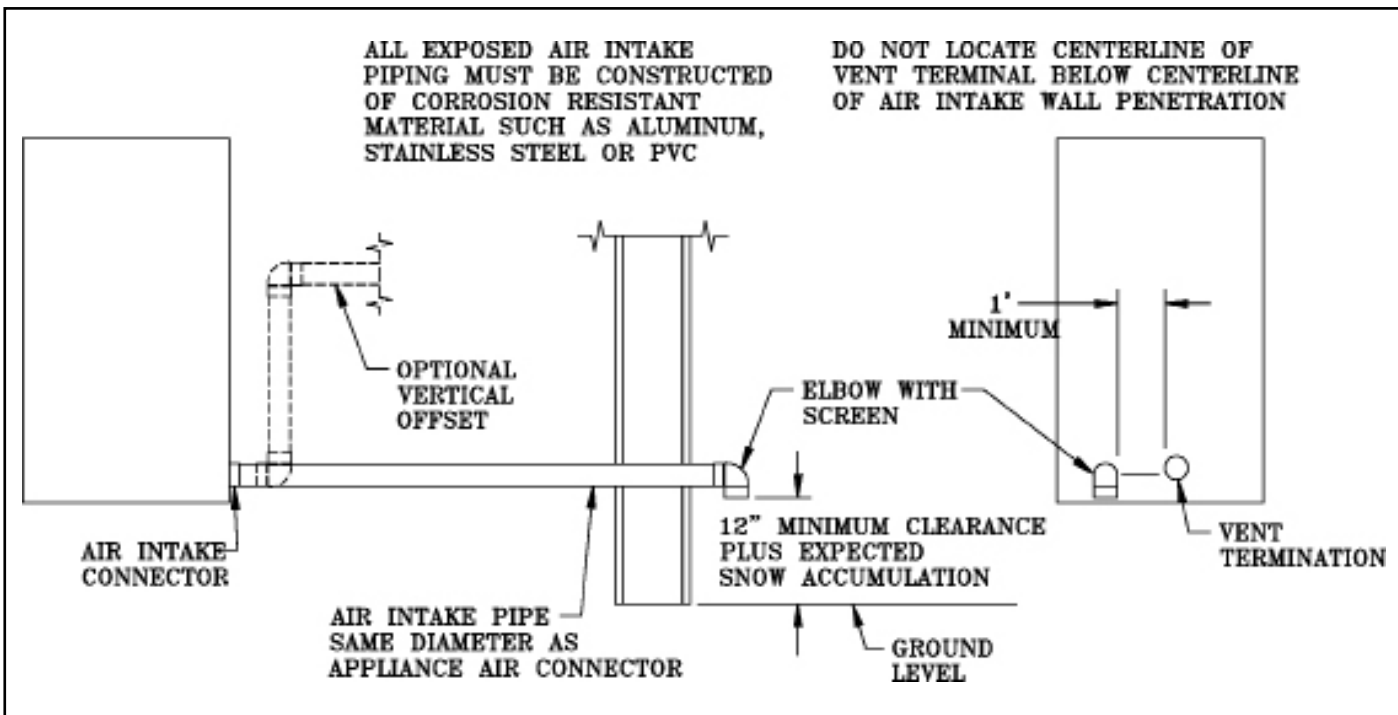

Figure 6: Horizontal Air Intake Piping
B. COMBUSTION AIR - See Figures 6 and 7.
4. The maximum air intake pipe length is fifty (50) equivalent feet. Air intake pipe length is equal to the total length of straight pipe plus the equivalent length of fittings. Consult intake pipe manufacturer for equivalent length of fittings and pipe.
8. The horizontal air intake pipe must be adequately supported with straps or supports no less than five (5) feet apart. The completed air intake pipe system must be rigid and able to withstand impacts without collapse.